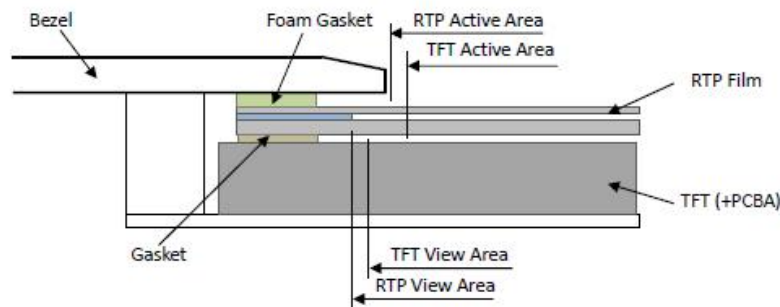

Figure 5
- In general design, RTP V.A. should be bigger than the TFT V.A. and RTP A.A. should be bigger than the TFT A.A. (Figure 5)
(附图 5)